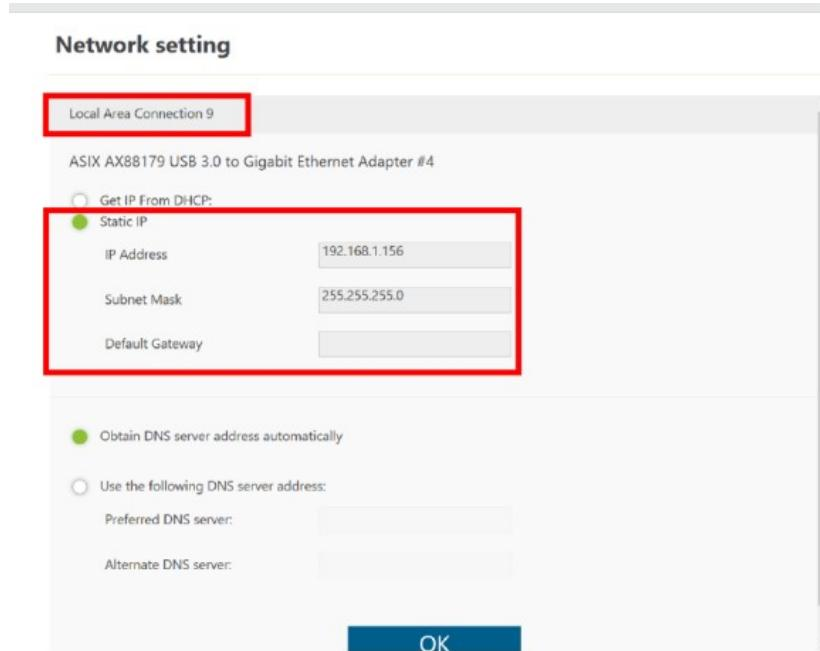

Figure 8.7: Network setting
- (f) Inserire la subnet mask 255.255.255.0 (Fig. 8.7)